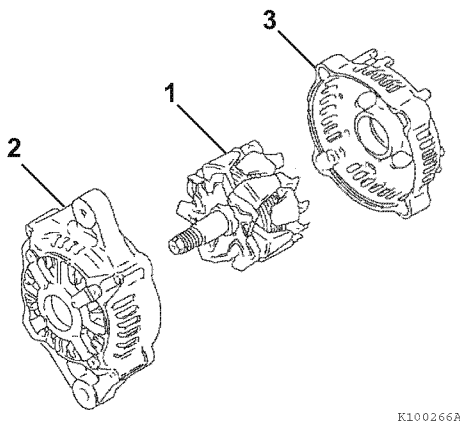

Figure 11-14
- Lubricate the shaft of the rotor assembly (Figure 11-14, (1)). Press the rotor assembly into the front frame housing (Figure 11-14, (2)) and rear frame housing (Figure 11-14, (3)).